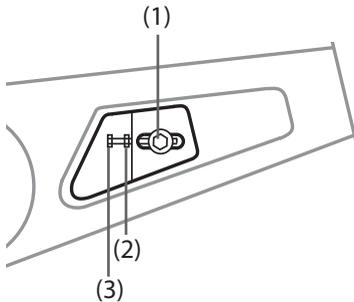

Figure 12
- 2: Loosen the bolts (1) on both sides of the cycle with a 19 mm wrench, see figure 12
- 3: Loosen the nuts (2) on the counter bolt on both sides of the cycle with a 10 mm wrench, see figure 12.
- 4: Use a wrench to tighten the counter bolts (3). On the right side, the tool should be pulled downwards and on the left side upwards to tighten with a 10 mm wrench.